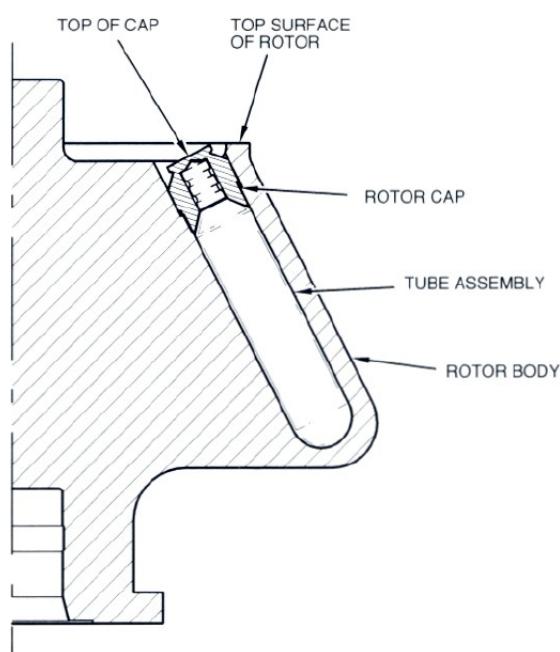

Figure 2-3. Properly Seated Rotor Cap in the T-8100 Rotor
2. Place a rotor cap (Catalog No. 45662) in each tube compartment that contains a filled tube. Push the rotor cap into the tube compartment until it is properly seated (if necessary, apply a small amount of lubricating grease, Catalog No. 61556 to aid the loading process); when properly seated in the T-8100 rotor, the edge of the cap will be flush with the top surface of the rotor. See figure 2-3. Read the CAUTION.